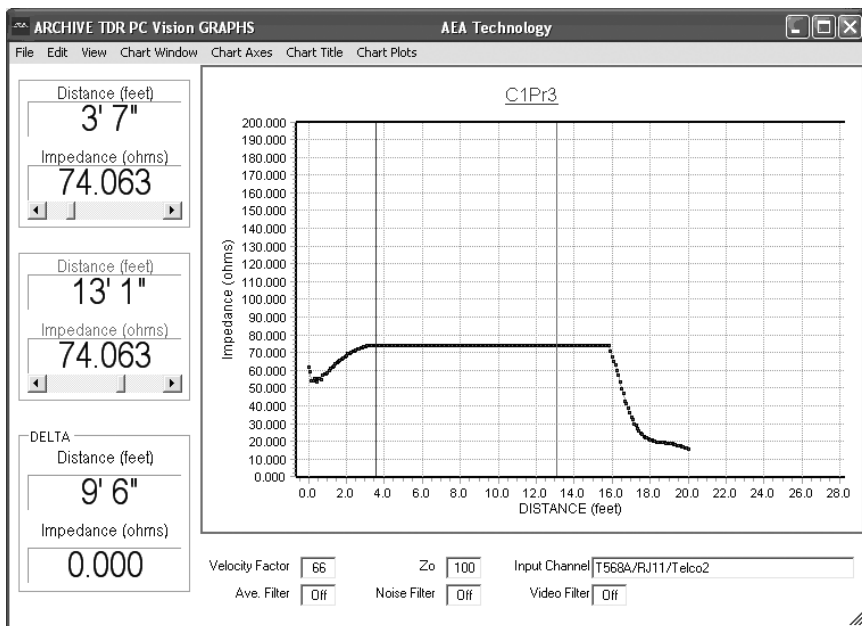

Figure 4-8
3. Review the screen as shown in Figure 4-8 to ensure the uploaded plot is the saved plot desired.